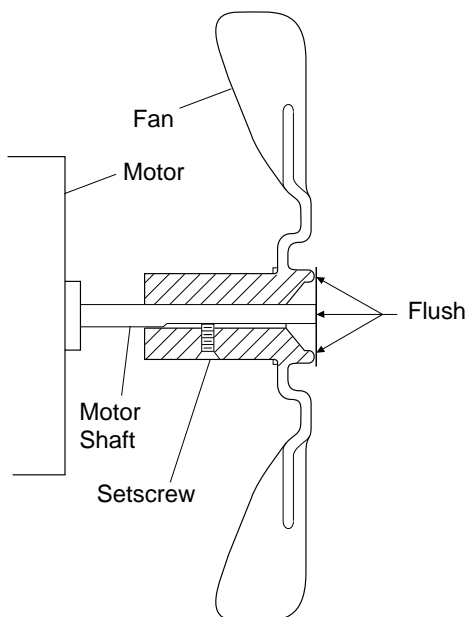

Figure 9 - Fan Cross Section 35/55/110,000 Btu/Hr Models
6. Replace fan on motor shaft. Place fan hub flush with end of motor shaft (see Figure 9).